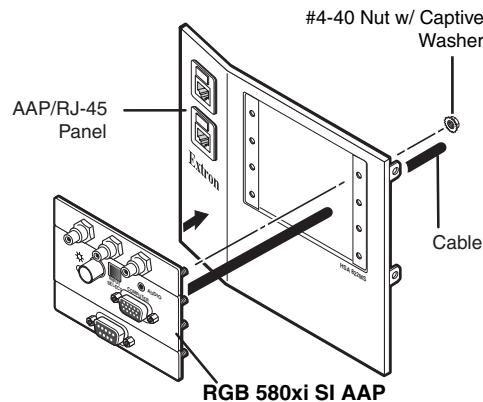

Figure 3-3 — Mounting an AAP device
10. Insert each AAP's screws through the holes in the AAP opening of the AAP/RJ-45 panel. Secure each AAP to the panel with the provided captive washers and #4-40 nuts (figure 3-3).